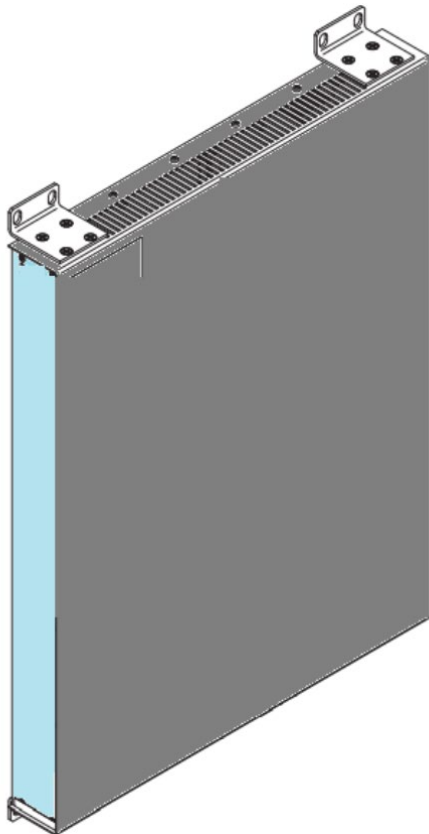

Figure 25: Installing the device on a vertical flat surface
- ☐ Install the 2 screws to attach the mounting brackets to the wall. See Figure 25.